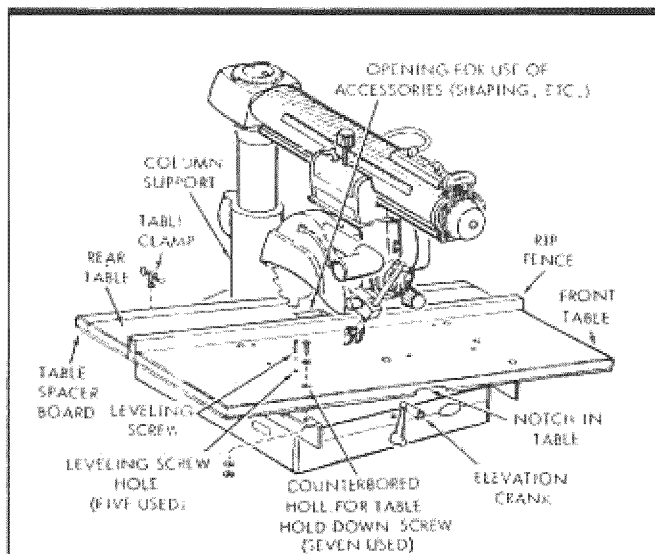
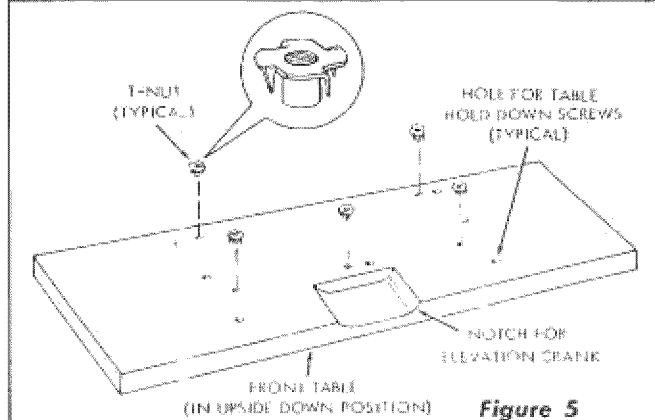
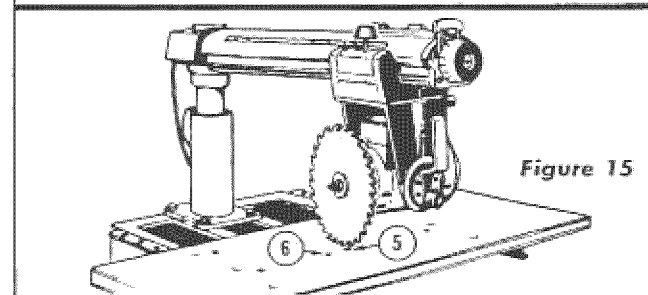

Figure 4
Figure 5
Figure 15
The saw should be placed on a suitable sturdy work bench and the base positioned so that the elevation crank is free to rotate. (See figure 4.) The base of the saw must be mounted flush to a flat surface on the work bench to prevent distortion of the saw base. The nuts, screws, and washers which attach the wooden shipping skids to the saw base may be used to secure the saw base to the work bench.
1. Place the large table board upside-down on floor. The bottom side has a notch (cutout) for clearance of elevation crank. (See figure 4.) Distinguish between the five through-bored (leveling screw) holes and the seven counterbored holes. Drive T-nuts into the five through-bored holes. (See figure 5.)
2. Place the large table board on channels with cutout table notch forward and down as shown in figure 4.
2. Insert a set screw (leveling screw) into each of the five leveling, T-nuts. (See figure 5.) Insert screws from the top side until they just touch the top of the base.
12. Move the saw blade to center of table. If the table is low at this point, raise it by adjusting the screw (point 5, figure 15). It may be necessary to back off the screw (6) to provide proper clearance.
13. If the table is high at the center, lower it by tightening the screw (6). When the table is adjusted parallel to the radial arm, rotate the set screw (5) clockwise until it bottoms on the base. This will serve as a lock for the adjustment of screw (6).
14. Place the rip fence in vertical position behind front table board. (See figure 4.)
17. Install the table clamps at locations shown in figure 4 and tighten them securely against the edge of table spacer.